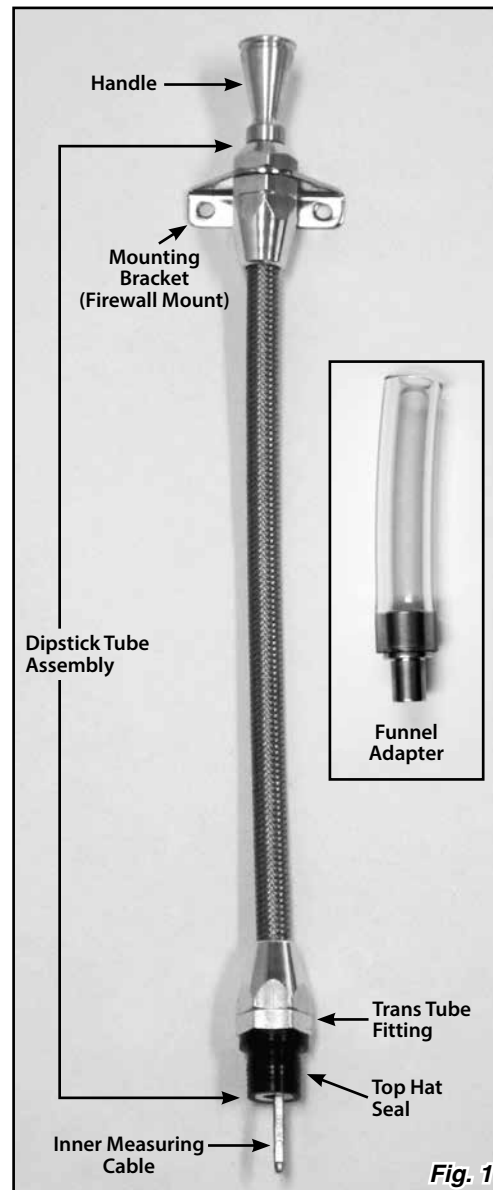
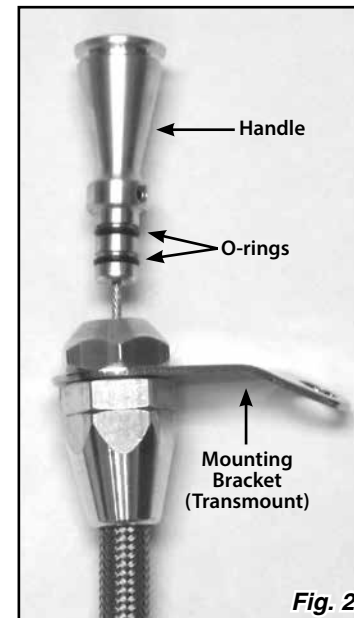

Fig. 1
Fig. 2
Refer to Fig. 1 and Fig. 2 for the component names.
**Step 7:** Make sure the dipstick tube assembly is not touching the exhaust at any point. Lightly lubricate the o-rings on the dipstick handle with clean transmission fluid. **Fig. 2**